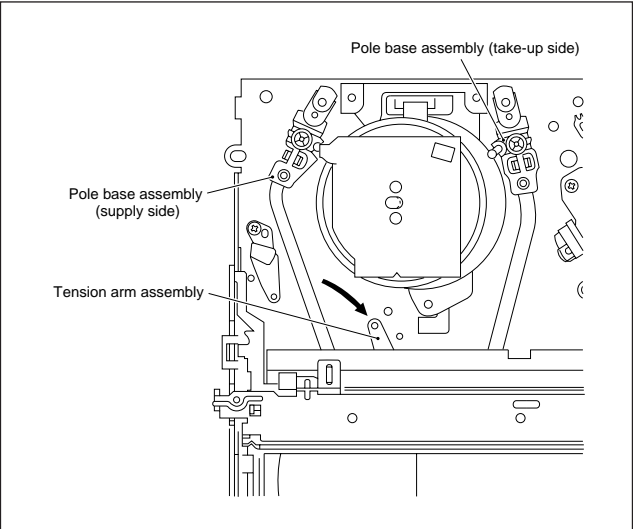

Fig. 2-1-3c
- (1) Unplug the power cable and remove the top cover, front panel assembly and others so that the mechanism assembly is visible. (See SECTION 1 DASSEMBLY.)
- (2) While keeping the tension arm assembly of the mechanism assembly free from tension, pull the tape on the pole base assembly (supply or take-up side) out of the guide roller. (See Fig.2-1-3c.)